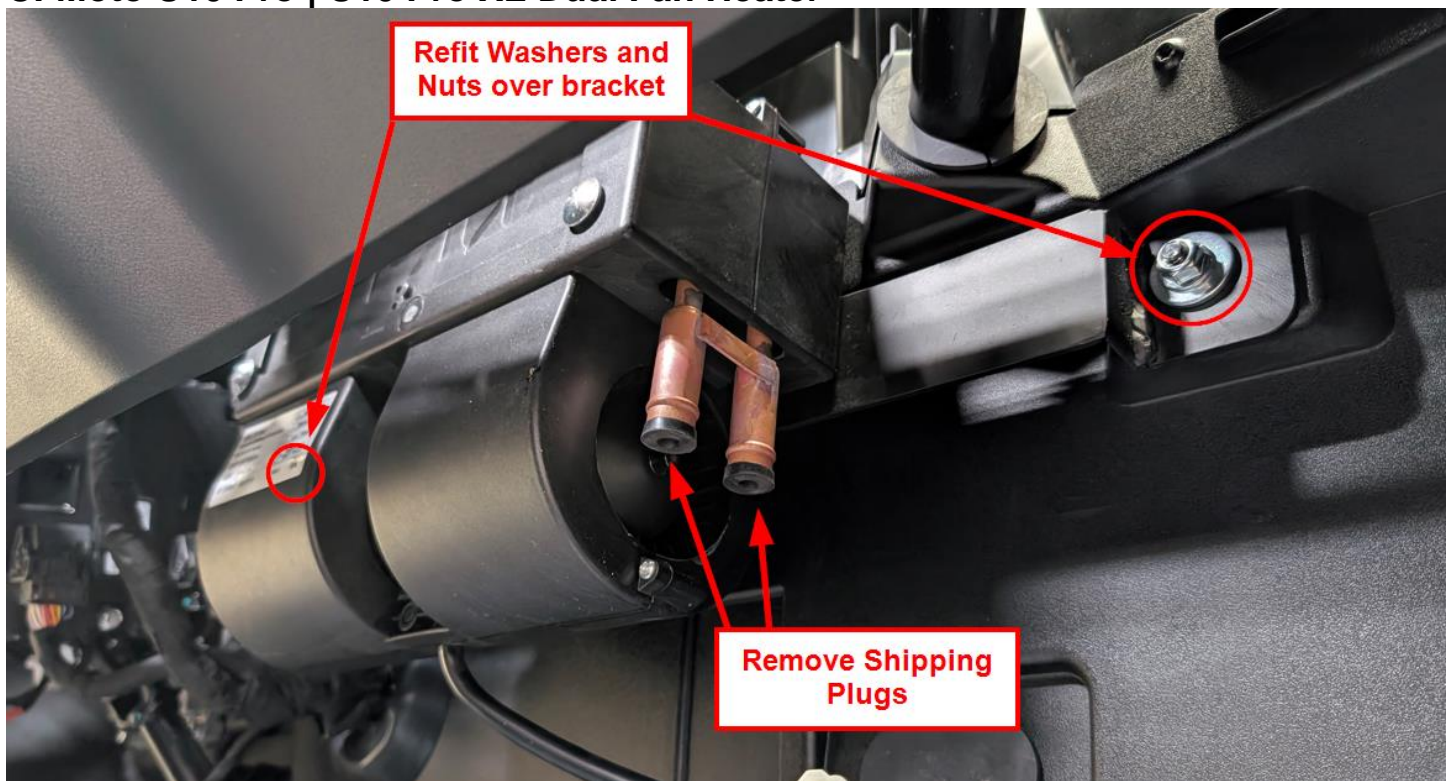

Figure 12
- c. Raise the Heater assembly into place over the two threaded studs on the Firewall. Secure with the original Washer and Nut. See Figure 12, Be Sure to remove the Black Shipping Plugs if present.